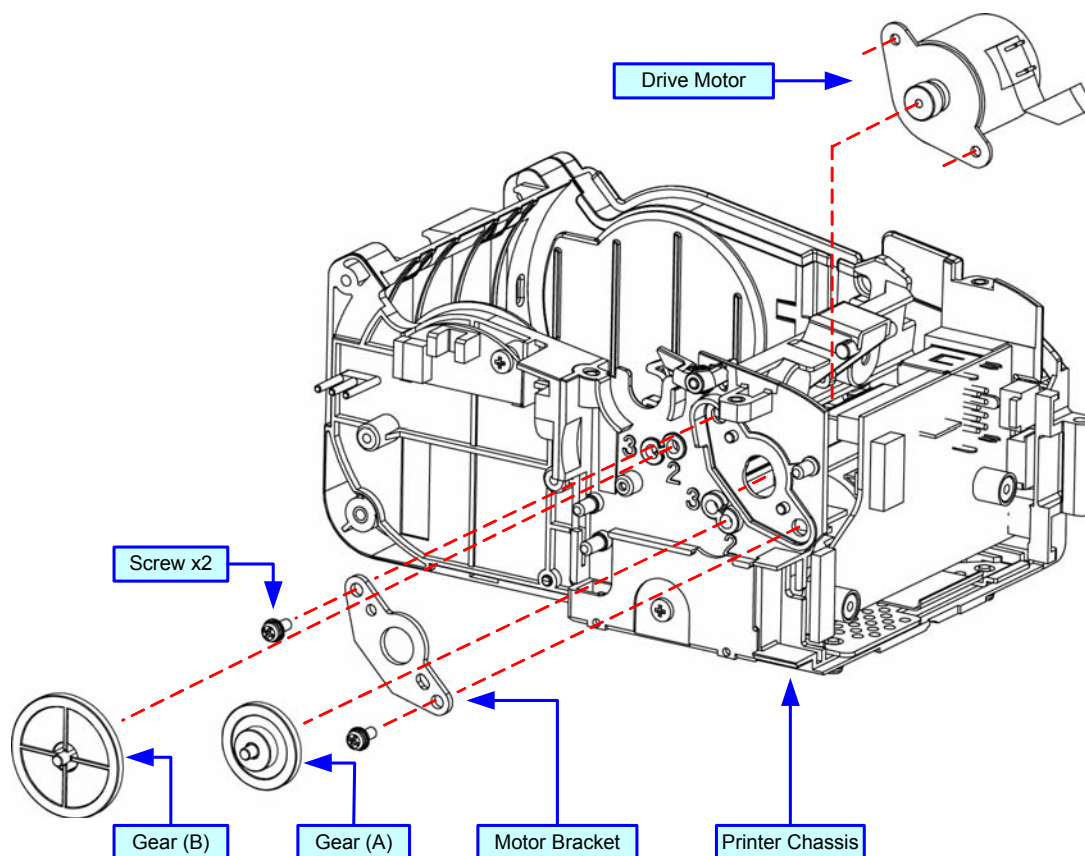

Figure 7-12, Drive Motor Replacement
- 3 Withdraw gears (A) and (B) from the printer chassis (Figure 7-12).
- 7 Insert gears (B) and (A) into their respective positions identified by the numeral 2.